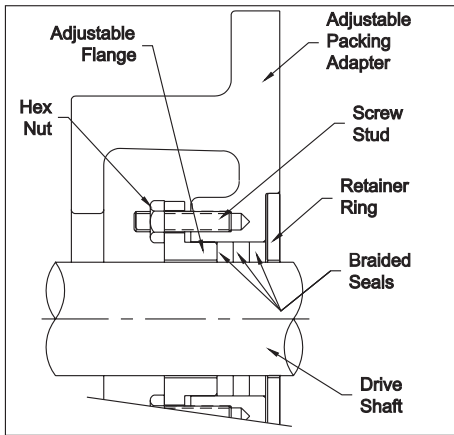

Figure 2 - Optional Adjustable Packing Adapter
- Install 2 screws in studs in the adapter. Use Loctite on threads. See Fig. 2.